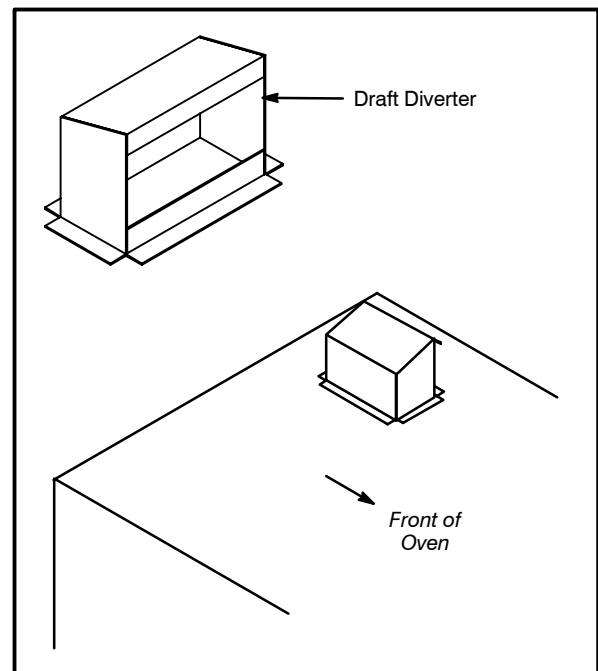

Figure 7
1. Place the diverter over the flue connector with the open area facing the right side of the oven. See Figure 7.